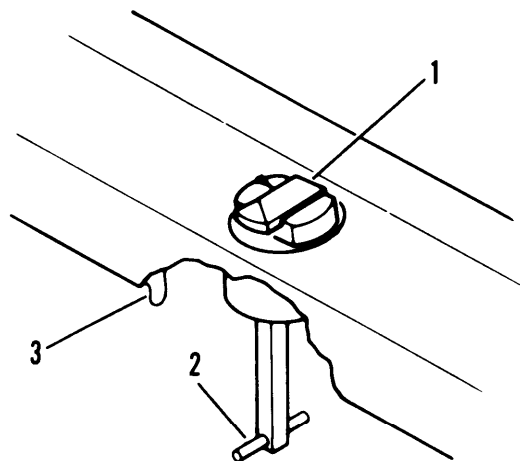

Figure 2-6. Retractable Twist Lock
b. The twistlock bayonet (1, fig. 2-6) fits into the container receptacle to secure the container.
c. The handle (2) turns the twistlock bayonet (1).
d. The handle securing latch (3) locks the twistlock bayonet into the locked position.